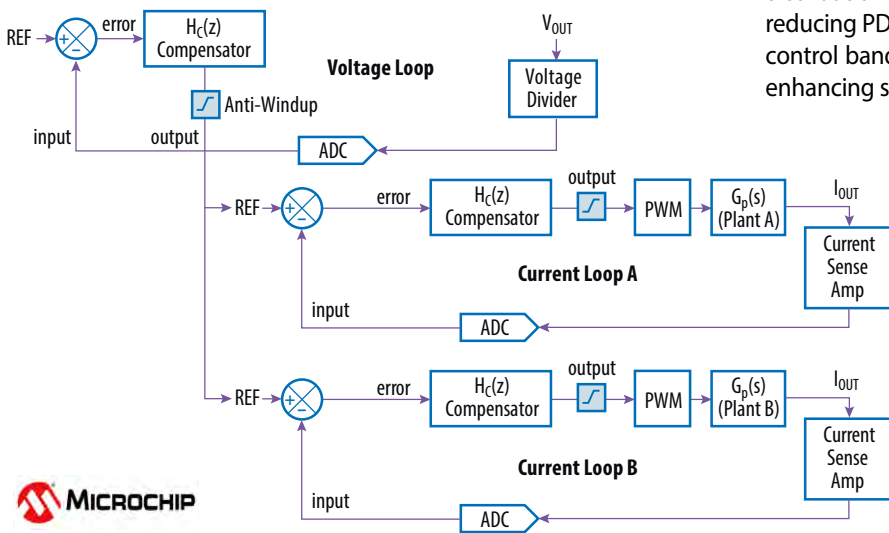

Figure 14. Interleaved buck converter average current mode control
- **Conventional, Robust Average Current Mode Control (ACMC) (figure 14):** With this firmware the power converter is controlled by one outer voltage loop providing a shared reference to two independent inner average current loops controlling the phase current of each converter phase. This conventional approach ensures proper current balancing between both phases of this interleaved converter, operating 180° out of phase to minimize the input current ripple and filtering. The inner current loops are adjusted to average cross-over frequencies of 10 kHz. To balance the current reference perturbation of the inner current loops, the outer voltage loop has been adjusted to an average cross-over frequency of 2 kHz, which determines the overall response time of the converter.